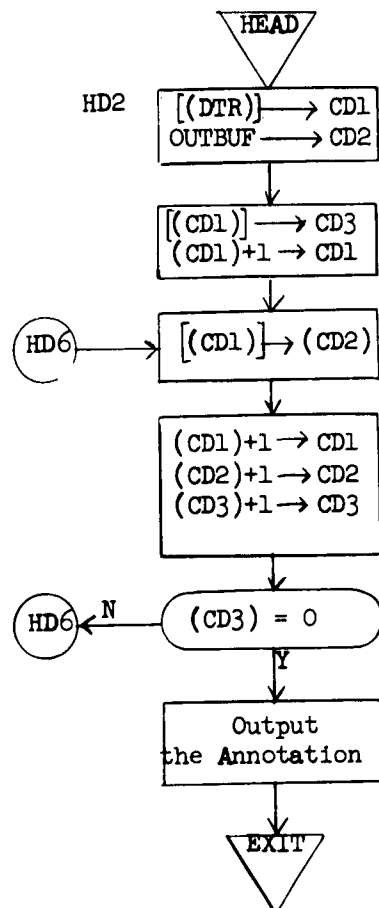

Figure 7.19 HEAD
7.3.3 HEAD Subroutine (Figure 7.19)